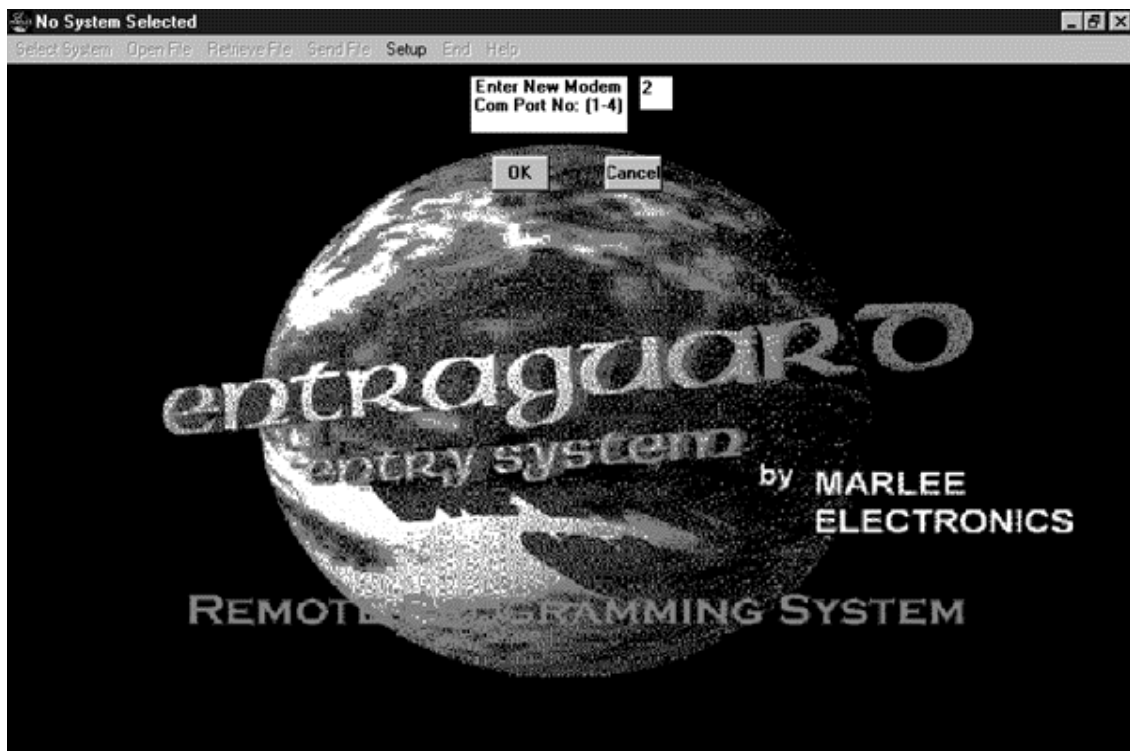

Figure 5.4.1
a) Double Click on the **Set Com Port** command. The following window (Figure 5.4.1) will appear: